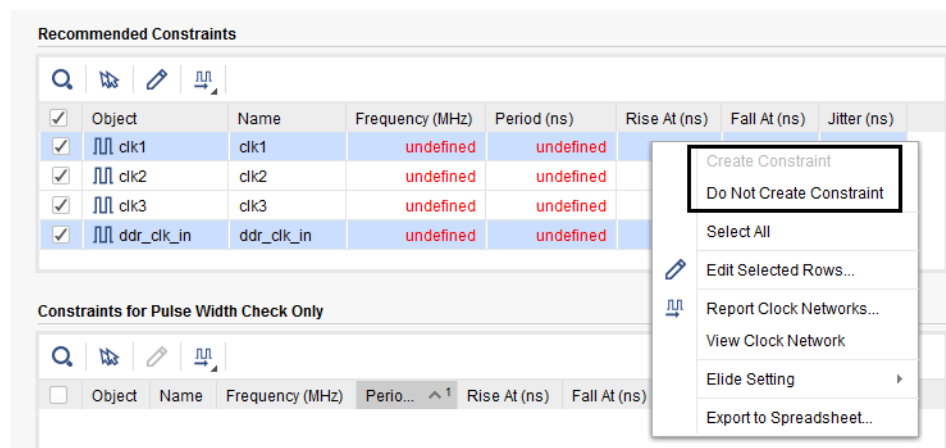

Figure 2-11: Skipping Recommended Constraints Using the Context Menu
**TIP:** Alternatively, you can right-click the constraint, and select *Do Not Create Constraint*, as shown in Figure 2-11.